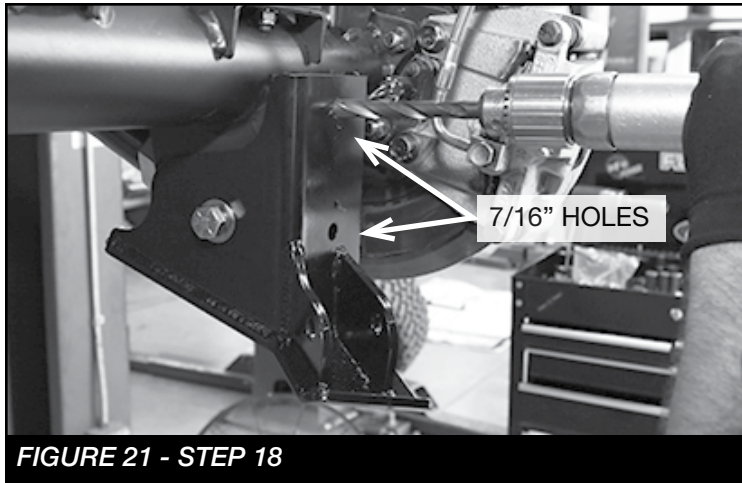

FIGURE 21 - STEP 18
18. Using a 7/16" drill bit. Drill out the (2) holes on the factory mount using the new Fabtech bracket as a guide. **SEE FIGURE 21**